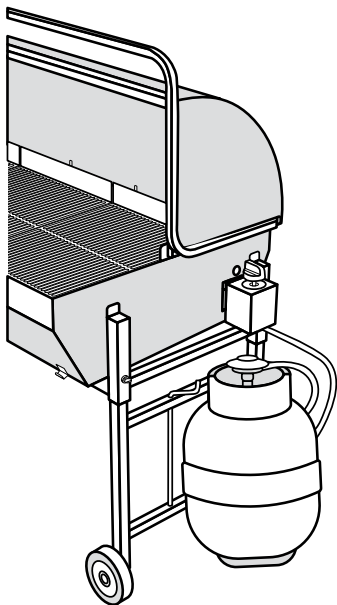

FIGURE F9
1. **Gas bottle:** Place a 9kg gas cylinder on the brackets of the wheel leg end (Figure F9).